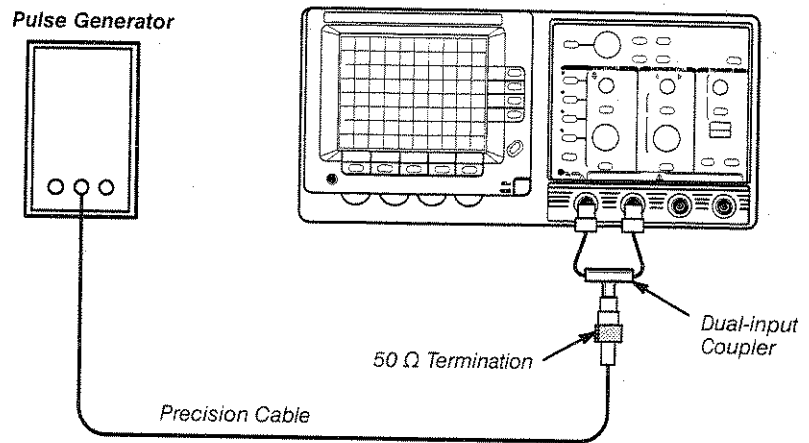

Figure 7-3: Low Frequency Output Compensation Calibration Setup
7. Connect the positive fast rise pulse output of the pulse generator to the **CH 1** and **CH 2** input connectors as shown in Figure 7-3.